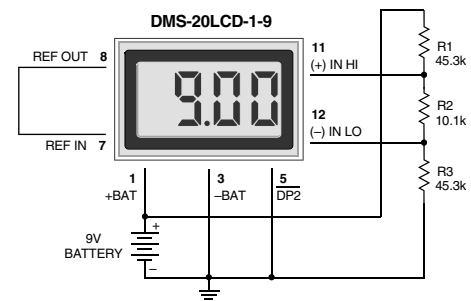

Figure 8. Power Supply Monitor (9V-Powered Models)
- 6. Power Supply Monitoring:** A popular application for DATEL's low-power LCD meters is monitoring the supply voltage in battery-operated portable equipment. Figure 8 demonstrates how a 9V-powered DMS-20LCD can be used to monitor its own supply. The meter used is the DMS-20LCD-1-9. A three-resistor voltage divider is used to attenuate the battery voltage and also to satisfy the requirement that the input voltages applied to pins 12 and 11 be at least 1.5 Volts above and below the battery voltage applied to pins 1 (+BATTERY) and 3 (-BATTERY). The divider should be designed so that 1/10th the battery voltage falls across the inputs to the meter: